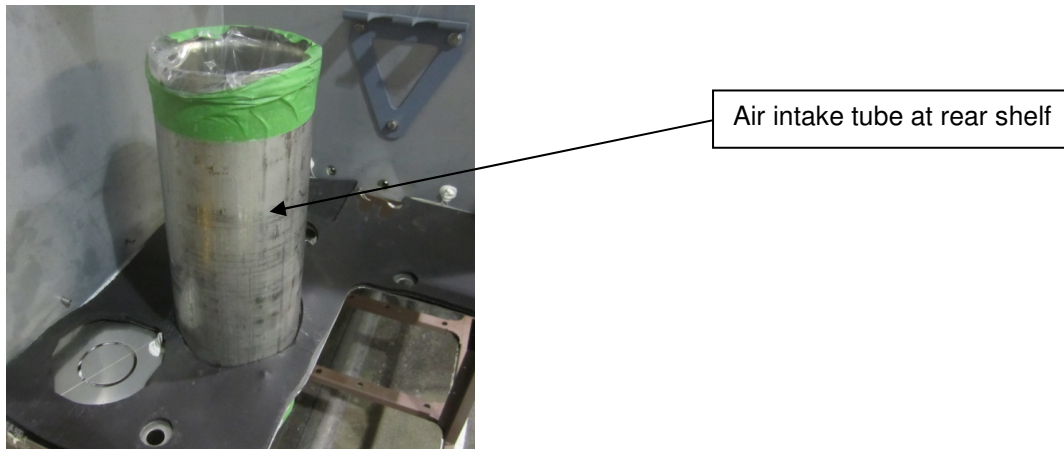

Figure 15: Rear Shelf Air Intake Tube
25. Using a lint free damp cloth clean the interior of the air intake tube. Cap/plug the upper end of the tube if not immediately proceeding to the next step. See Figure 15.